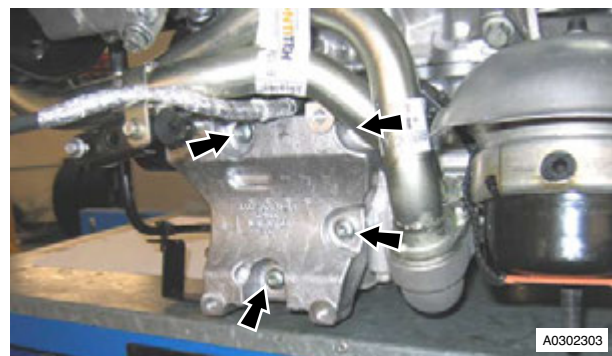

Figure 11
22. Remove Torx bolts (x4) securing A/C compressor mounting bracket to engine bedplate and sump. Remove bracket (see Figure 11).